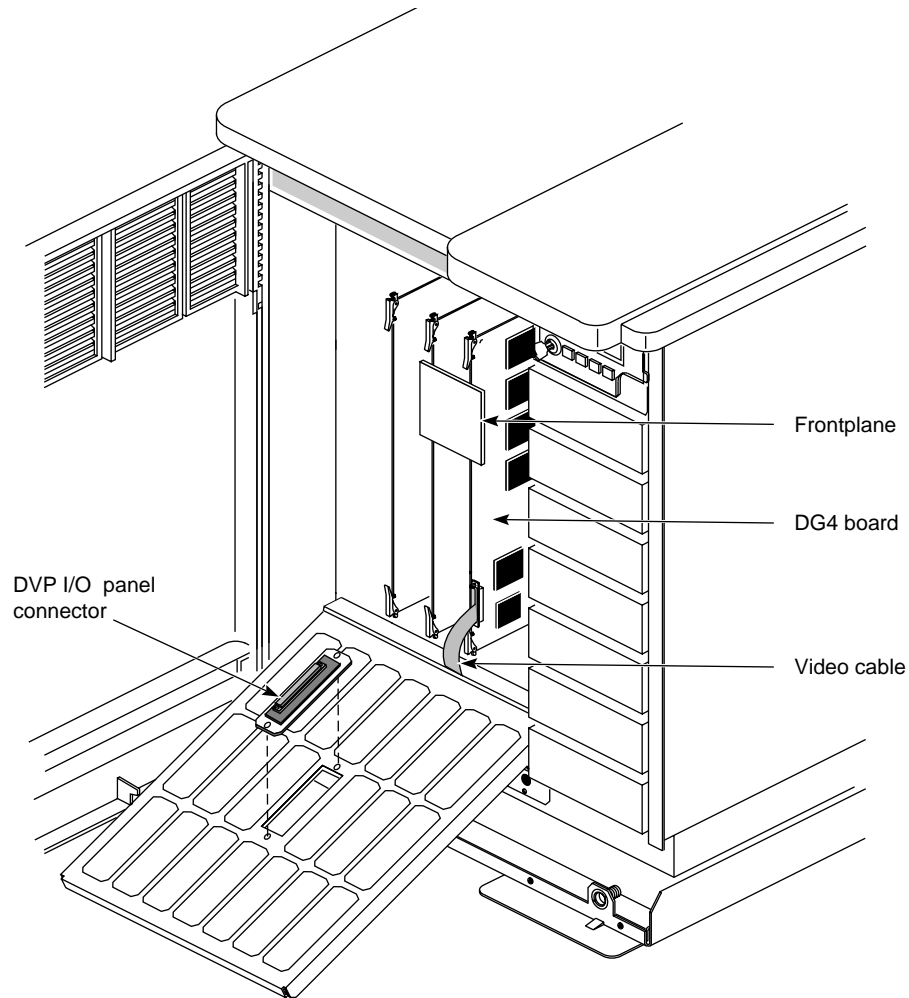

Figure 2-1 Installing the DVPI/O Panel Connector
- Figure 2-1 Installing the DVP I/O Panel Connector..... 2-2**
To install the DVP I/O panel connector in the I/O door, see Figure 2-1 and complete the following steps:
To remove the existing DG4 board, refer to Figure 2-1 and complete the following steps: